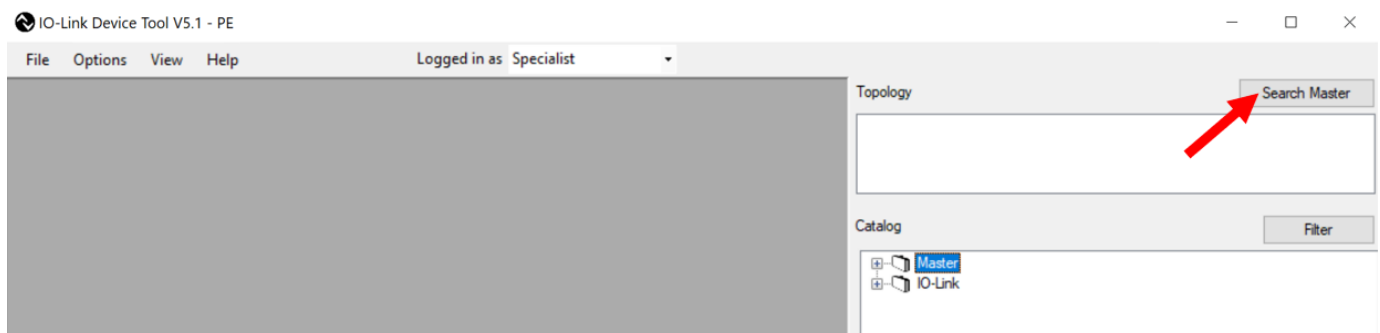

Figure 3. Search Master
- a. Click on 'Search Master' in the main 'IO-Link Device Tool VS5.1 – xE' window, see Figure 3.